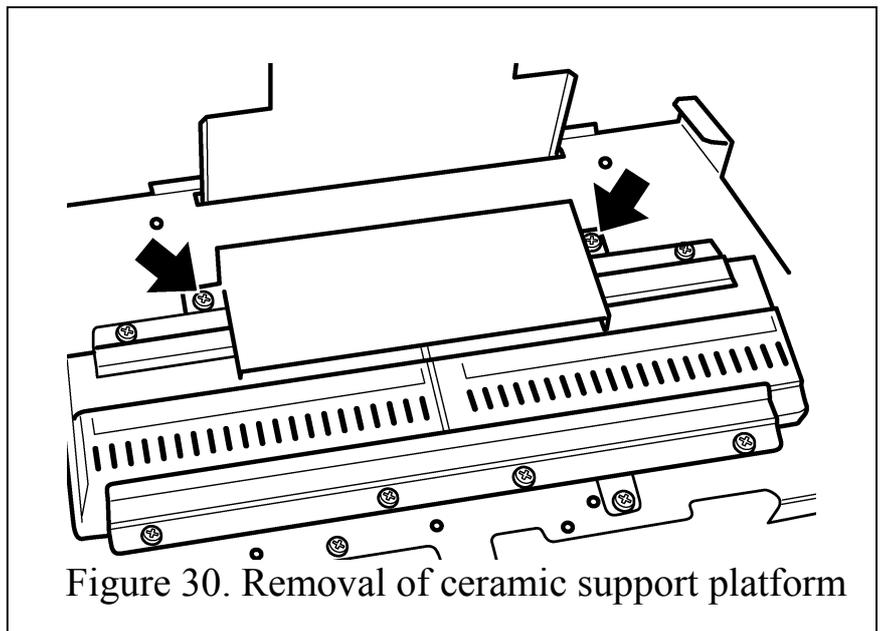

Figure 30. Removal of ceramic support platform
- Remove the ceramic support platform (See figure 30)